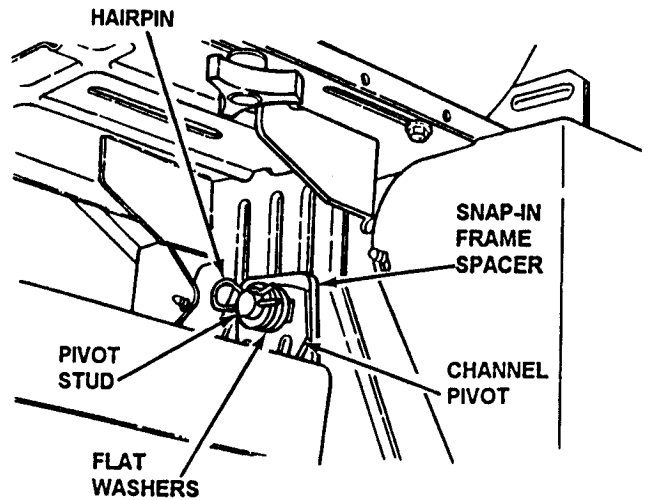

FIGURE 4.2
- a. Remove hairpin and flat washers from pivot stud. See Figure 4.2.
d. Reinstall the required amount of flat washers removed in step "a." and install hairpin. Refer to Figure 4.2. Retain any remaining spacers for readjustment when a new belt is installed.